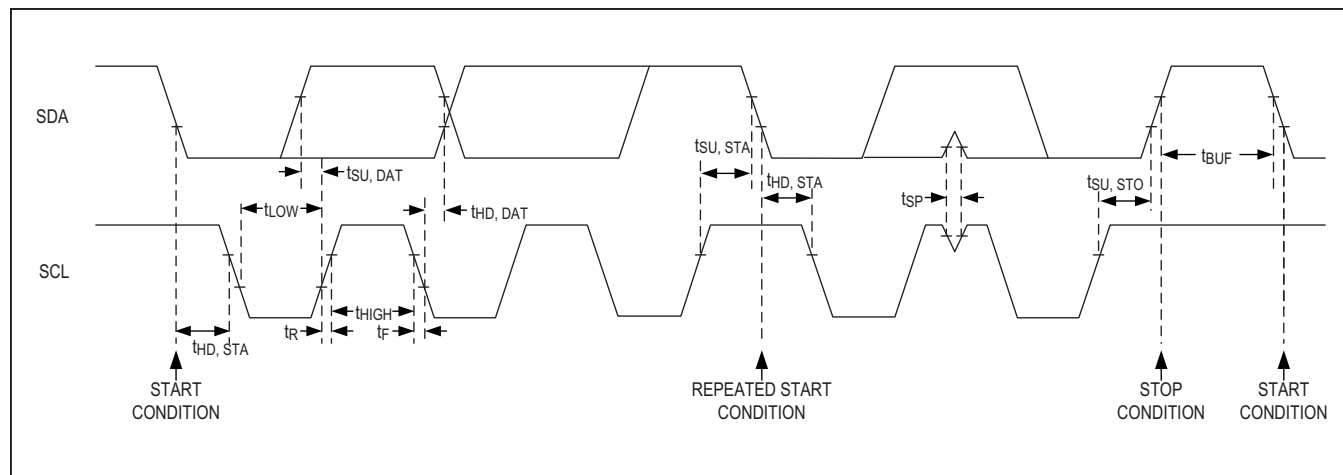

Figure 1. Detailed I2C Timing Diagram
Figure 1 shows the 2-wire interface timing diagram. The master generates SCL and initiates data transfer on the bus. The master device writes data to the MAX30112 by transmitting the proper slave address followed by the register address and then the data word. Each transmit sequence is framed by a START (S) or REPEATED START (Sr) condition and a STOP (P) condition. Each word transmitted to the MAX30112 is 8-bits long and is followed by an acknowledge clock pulse. A master reading data from the MAX30112 transmits the proper slave address followed by a series of nine SCL pulses. The MAX30112 transmits data on SDA in sync with the master-generated SCL pulses. The master acknowledges receipt of each byte of data. Each read sequence is framed by a START (S) or REPEATED START (Sr) condition, a not acknowledge, and a STOP (P) condition. SDA operates as both an input and an open-drain output. A pullup resistor is required on SDA. SCL operates only as an input. A pullup resistor is required on SCL if there are multiple masters on the bus, or if the single master has an open-drain SCL output. Series resistors in line with SDA and SCL are optional. Series resistors protect the digital inputs of the MAX30112 from high voltage spikes on the bus lines, and minimize crosstalk and undershoot of the bus signals.
The detailed timing diagram of various electrical characteristics is shown in Figure 1.